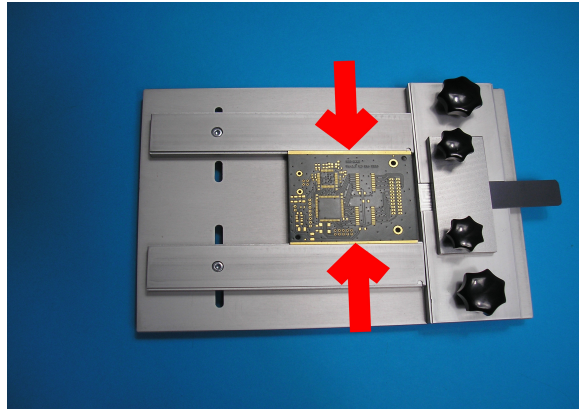

Fig. 4
- 5) Check if the circuit board can be moved on the grooves. The circuit board should be just so tightly clamped that it can still slide out of the slide E (Fig. 4).